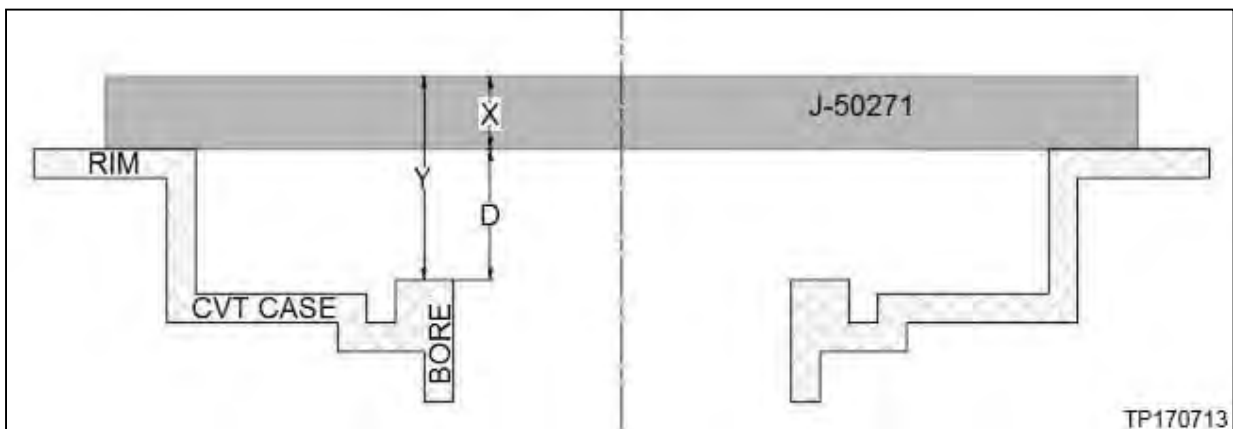

Figure 133
HINT: If Gauge Block J-50271 is not used, the thickness of the substitute measuring bar (measurement "X") will need to be measured. (Figure 133, page 65). This can be done either with a set of calipers or with Digital Depth Gauge J-50272.
105. Measure the average distance (Y) shown in Figure 133 as follows:
- Refer to Figure 131, Figure 132 and Figure 133, then proceed to page 66.